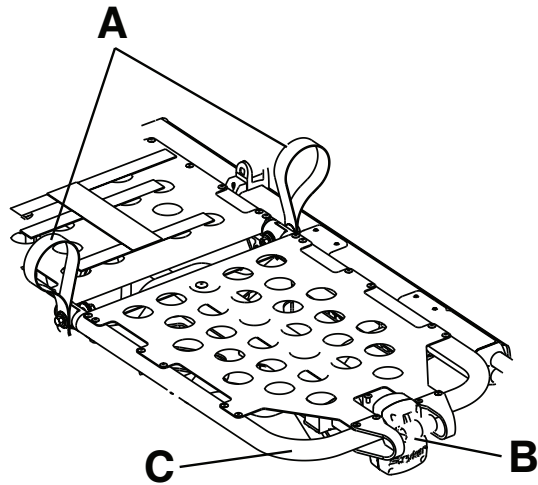

Figure 18 – Gatch
1. Lift either of the red lifting loops (A) until the knee Gatch is in the highest position (Figure 18).